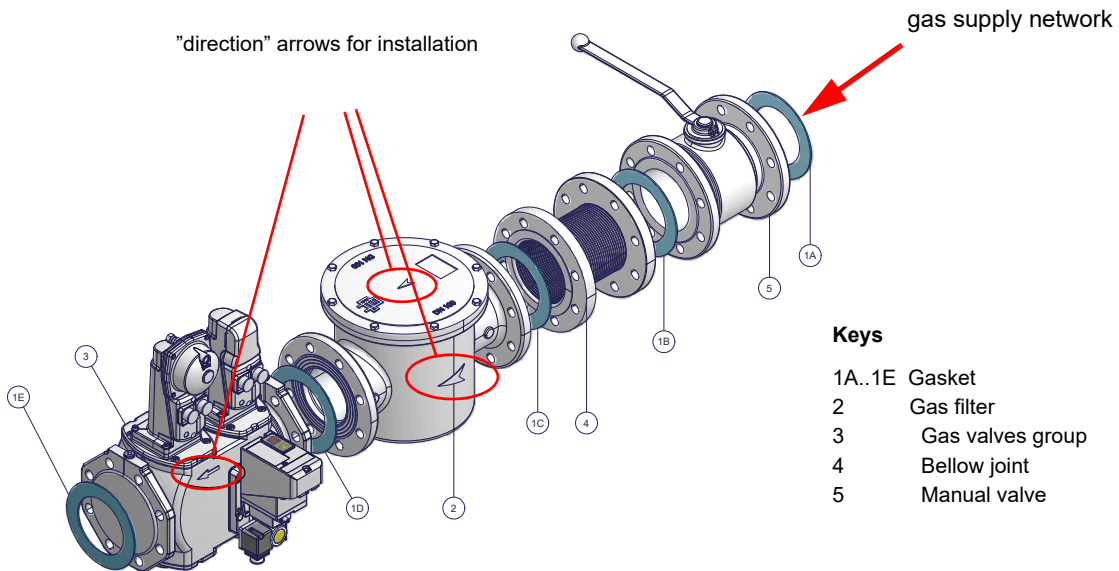

Fig. 2 - Example of gas train
- 1-b) in case of flanged joints: place a gasket (no. 1A..1E - Fig. 2) between the elements
<p>ATTENTION: once the gas train is mounted according to the diagram (Fig. 2), the gas proving test must be performed, according to the procedure set by the laws in force.</p>